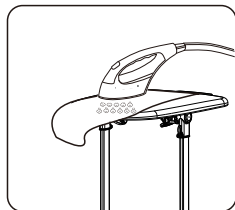

Figure 25
2. Follow the steps 2 to 5 from 'Vertical Steam Ironing Instruction' to iron the cloth. (Figure 25)